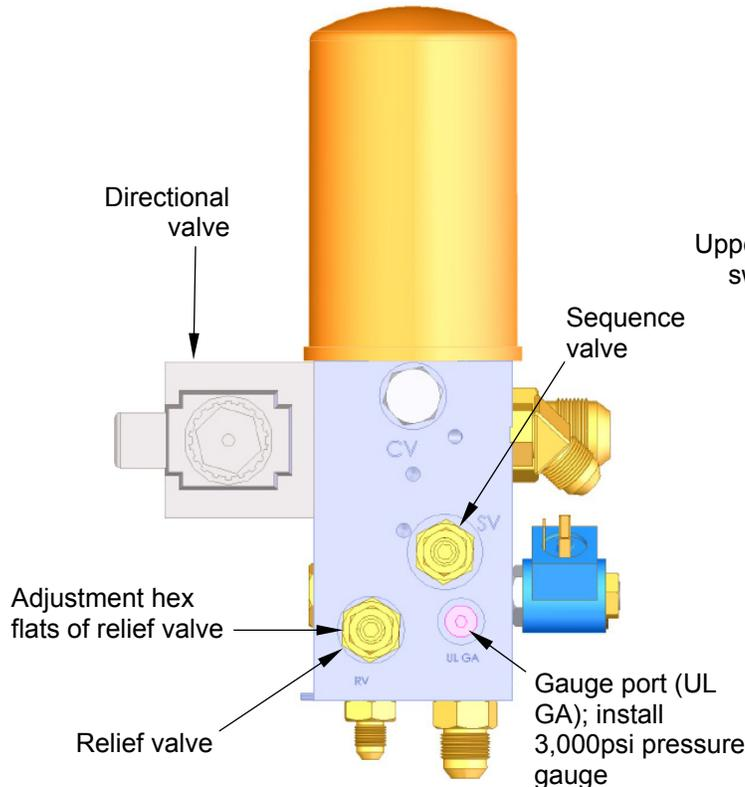

FIG. 7: Left side view
- b. Remove cap plug from UL GA port (located under sequence valve and pointing towards motor; see FIG. 7) and install a 3000 psi gauge.
3. Adjust the relief valve, which is connected to port RV as shown in FIG. 7. Turn the relief valve counterclockwise using an adjustable wrench on the adjustment hex of the valve.
7. While the motor continues to run and the piston rod is fully extended (platen at the bottom of its cycle), adjust the unload valve. The valve is connected to port SV (see FIG. 7).